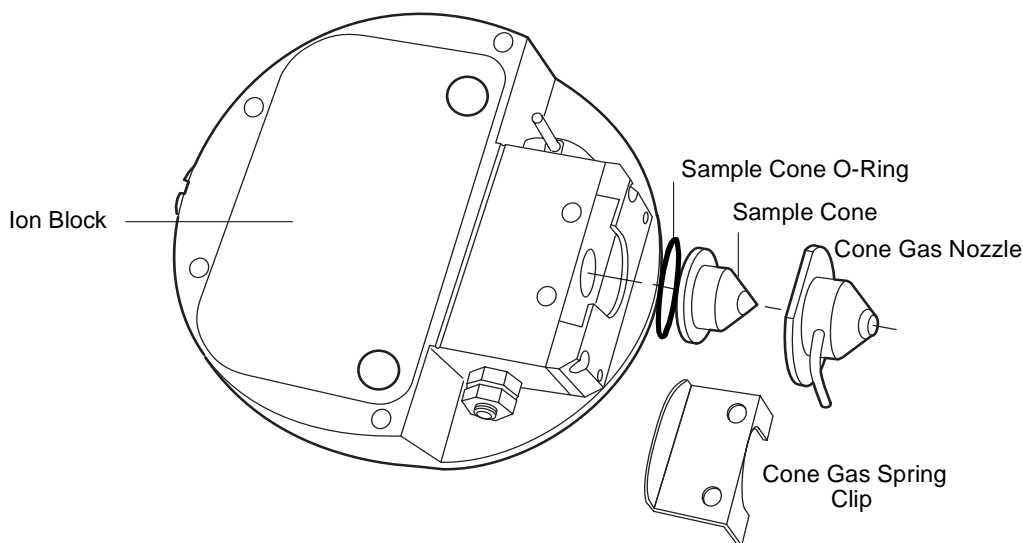

Figure 5-11 Sample Cone and Cone Gas Nozzle
14. Carefully separate the sample cone from the cone gas nozzle (Figure 5-6). Remove the sample cone O-ring (Figure 5-11).
- Ion block cartridge heater (Figure 5-11), spare part (part number 700001201, reference number M955504AD1)